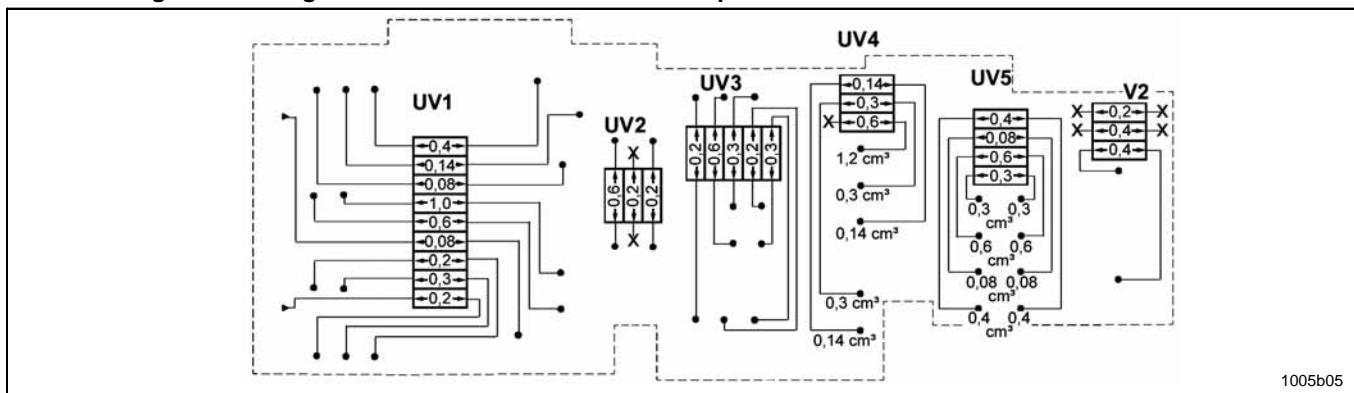

Fig. 37 Connecting the metering device to the lubrication points
- In the case of an odd number of lube points, use a metering device with internal (see bypass metering device UV4, Fig. 37, page 26) or external combining of lubricant quantities (see page 17).
- Example of an SSV D (see secondary metering device UV5, Fig. 37):
With standard metering devices SSV D 6 to SSV D 22 always connect outlets 1 and 2 to a lubrication point (example UV5, fig. 37).
In the case of the bypass metering devices SSV D 6/5 to SSV D 22/21 with cross-ported outlets 1 and 2 always connect outlet 1 or 2 to a lube point (example UV4, Fig. 37).